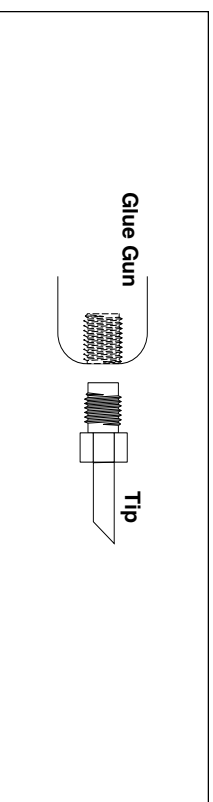
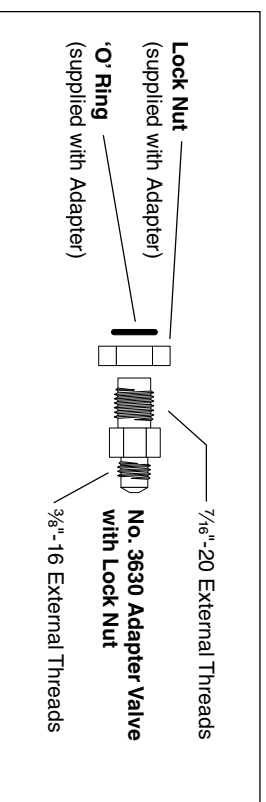

Figure 1. Glue gun ($\frac{7}{16}$ "-20 internal threads) and tip ($\frac{7}{16}$ "-20 external threads).
Figure 2. No. 3630 Adapter Valve with Lock Nut.
1. If your glue gun and tip look like Figure 1., then you need to purchase the No. 3630 Adapter Valve with Lock Nut shown in Figure 2.